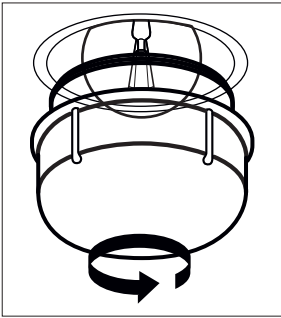

Figure 145
2. Remove the glass protection by turning it counterclockwise. (See Fig. 145) Using plastic gloves may help you if you have difficulty in rotating it.